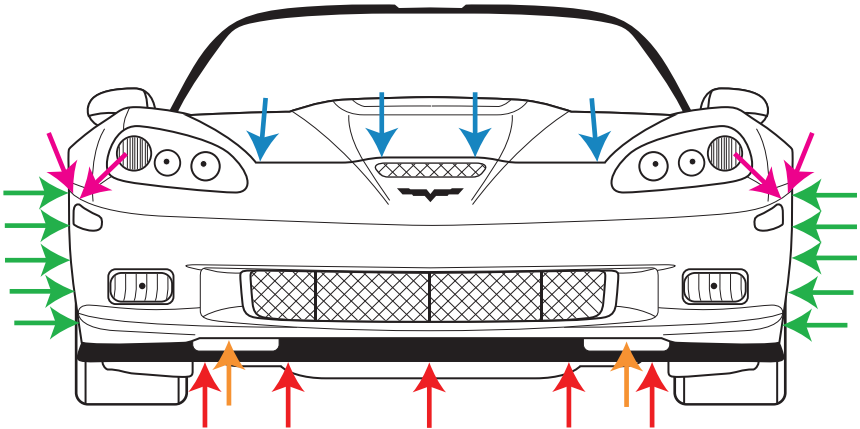

Figure 1 - Locations of Fasteners Securing the Front Bumper Cover
4. To remove the front bumper cover, first remove the fasteners shown in Figure 1: